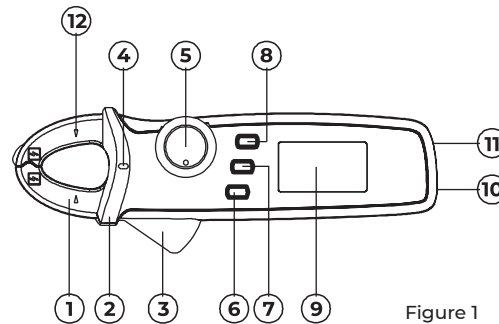

Figure 1
**VI. Drawing for Product Panel (Figure 1)**